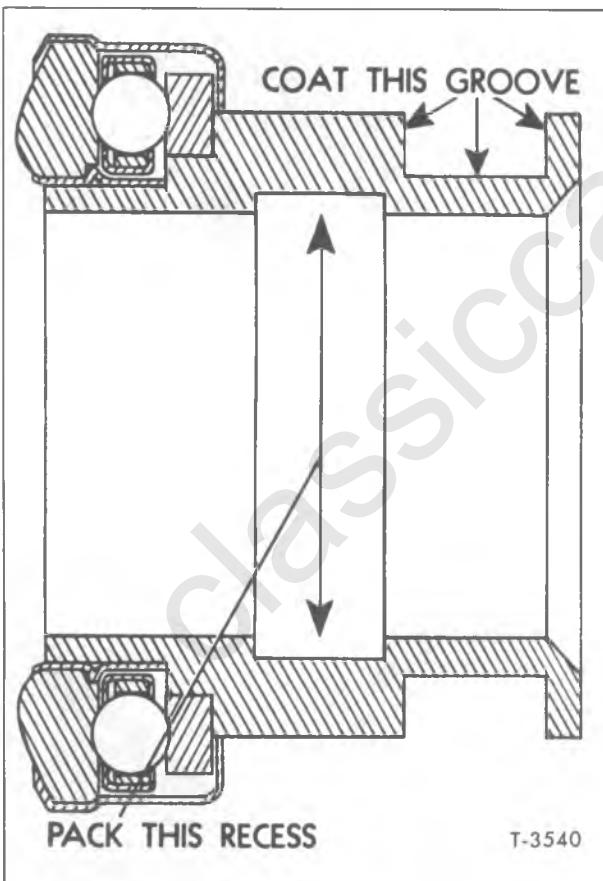

Figure 3—Release Bearing and Support Assembly (Typical)
4. Prior to installation of clutch release bearing and support assembly (fig. 3), fill the inside groove and coat the outside groove with a small quantity of high temperature grease "S27." For an explanation of lubricant "S27" refer to LUBRICATION (SEC. 0) of this manual.